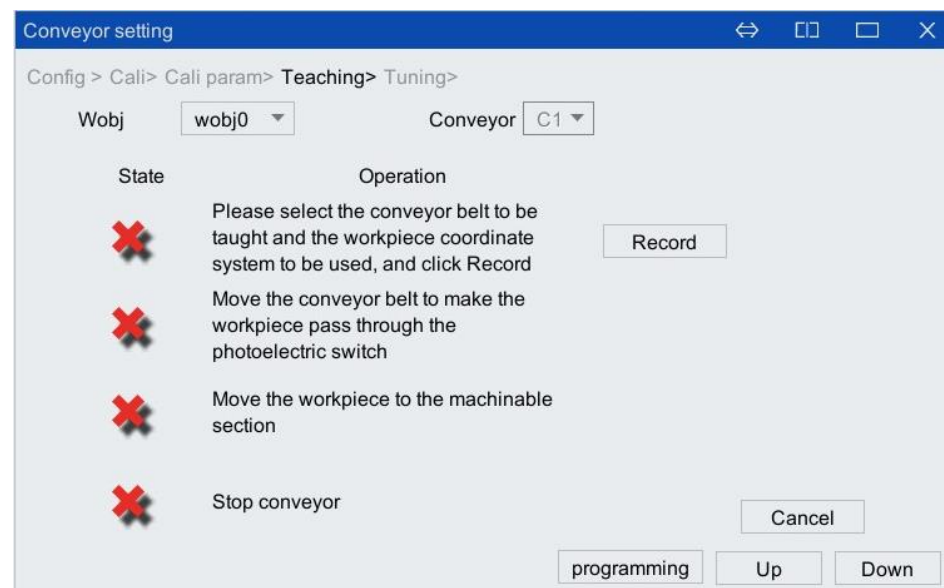

Figure 5-13 Conveyor belt teaching interface
Step16. Click <Down> to enter the "Teaching" interface, as shown in Figure 5-13. The teaching steps are as follows: